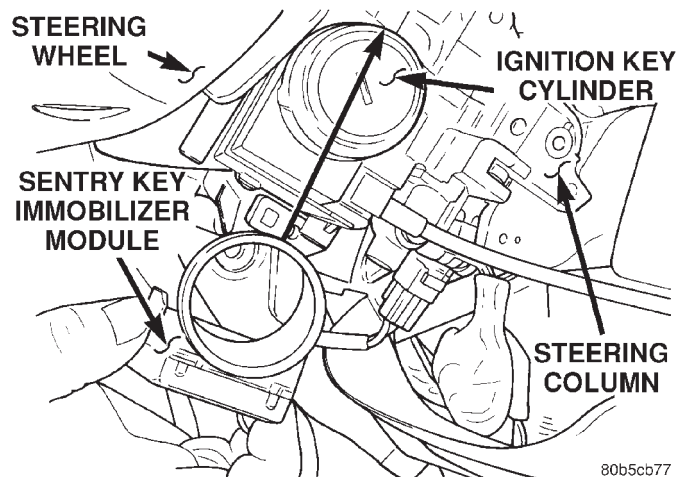

Fig. 1 Sentry Key Immobilizer Module Location
The SKIM is installed on the steering column near the ignition lock cylinder (Fig. 1). The transponder is located under the molded rubber cap on the head of the ignition key. The VTSS indicator LED is located in the instrument panel top cover.
The SKIM transmits and receives RF signals through a tuned antenna enclosed within a molded plastic ring formation that is integral to the SKIM housing. When the SKIM is properly installed on the steering column, the antenna ring is oriented around the circumference of the ignition lock cylinder housing (Fig. 1). This antenna ring must be located within eight millimeters (0.31 inches) of the Sentry Key in order to ensure proper RF communication between the SKIM and the Sentry Key transponder.
(2) Remove knee bolster. Refer to Group 8E, Instrument Panel and Systems for Removal and Installation.
(3) Remove the steering column upper and lower shrouds. Refer to Group 19, Steering for Removal and Installation.
(4) Disengage the steering column wire harness from the Sentry Key Immobilizer Module (SKIM).
(5) Remove the one screw securing the SKIM to the bottom of the steering column.
(6) Slide the SKIM away from the steering column to clear the SKIM antenna ring from around the ignition switch lock cylinder housing (Fig. 1).
(7) Remove the SKIM from the vehicle.